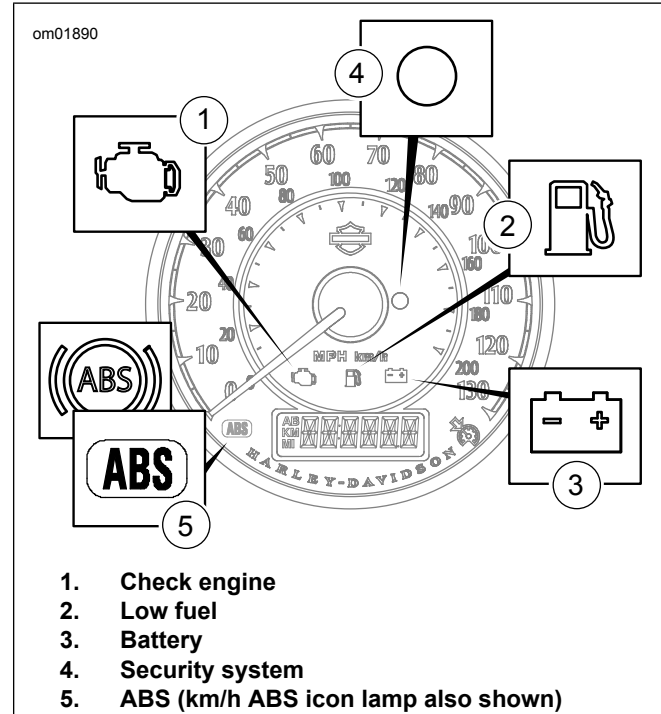
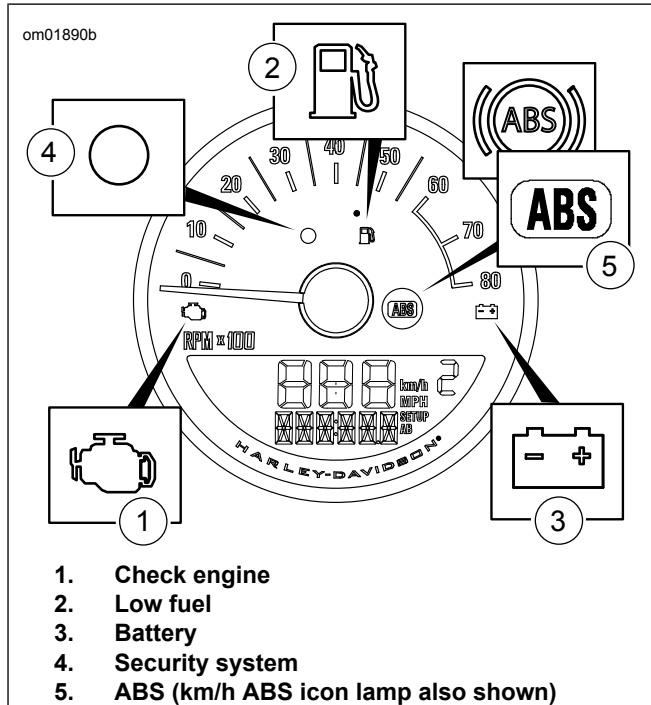

Figure 27. Instrument Lamps: All except XL1200CX
Figure 28. Instrument Lamps: XL1200CX
See Figure 27 or Figure 28. The check engine lamp (1) indicates whether the engine/engine management system is operating normally. The engine lamp color is amber.
See Figure 27 or Figure 28. The low fuel lamp (2) indicates when fuel falls below the reserve level in the fuel tank. Refer to Table 10 or Table 11. The low fuel lamp does not turn off until there is sufficient fuel in the tank, the ignition switch has been turned off and back on, and the vehicle has begun forward speed. If the low fuel lamp flashes at a steady rate, see a Harley-Davidson dealer.
See Figure 27 or Figure 28. The battery discharge lamp (3) indicates overcharging or undercharging of the battery. Refer to Service Procedures > Battery Maintenance (Page 146).
See Figure 27 or Figure 28. The red security lamp (4) indicates when the security system is armed. Refer to Owner Manual > SECURITY SYSTEM (Page 49) for security system operation.
Flashing: See Figure 27 or Figure 28. On vehicles with ABS, the ABS lamp begins flashing when the vehicle is turned on. The flashing lamp indicates that the system is in self-diagnosis mode. It continues to flash until motorcycle speed exceeds 3 mph (5 km/h). ABS is not operational until the lamp turns off. Refer to Operation > Brake System (Page 83).